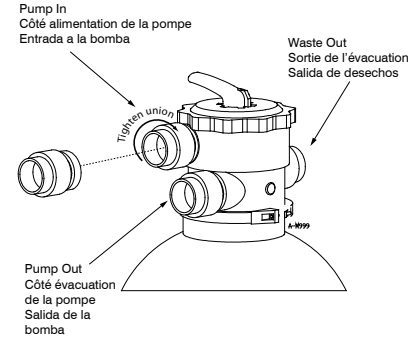

Figure 1
1. Attach the unions to the valve (Figure 1).